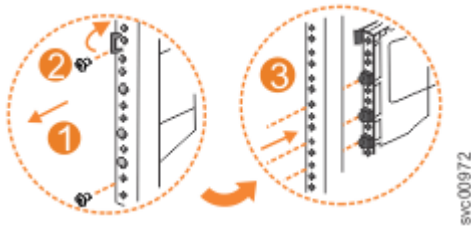

Figure 86. Remove the rail assembly from the front frame bracket
1. Remove the two screws that attach the outer rail section to the front bracket assembly, as shown in Figure 86 on page 147.
2. Remove the rail section by pulling it away from the front bracket, as shown in Figure 86 on page 147.